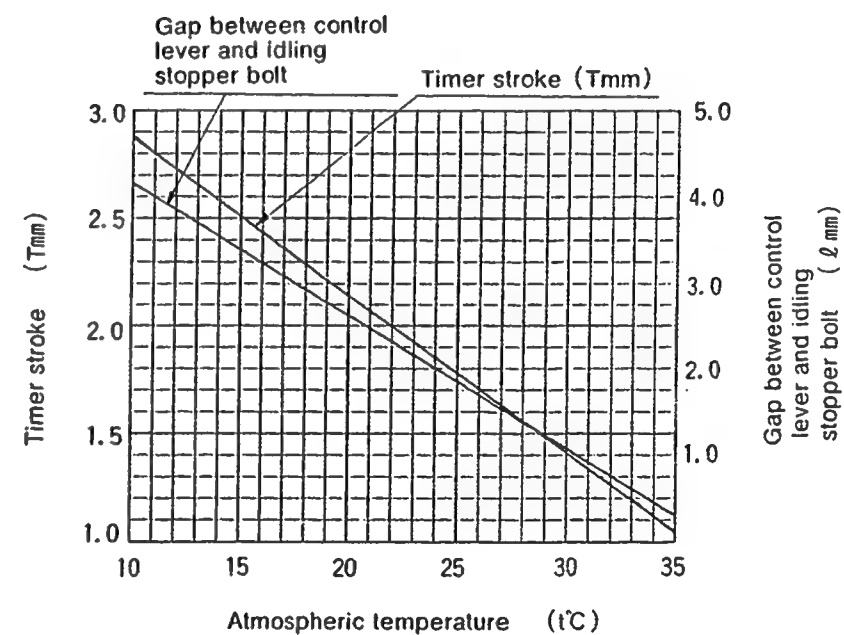

Fig. 2
1. Calculate the timer stroke from Fig. 2 according to the atmospheric temperature at the time of adjustment
1. Calculate the block gauge dimension  $\ell \pm 0.05\text{mm}$  from Fig. 2 according to the atmospheric temperature at the time of adjustment.